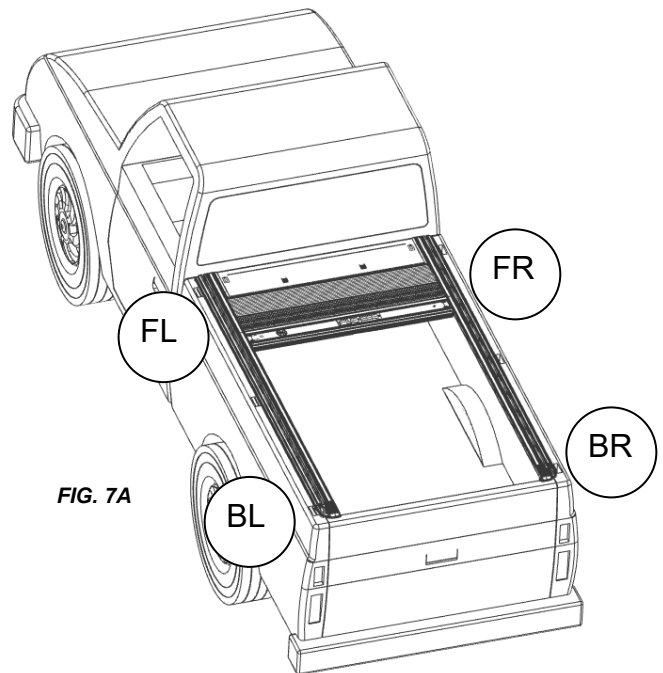

FIG. 7A
Slide the clamp extensions on the tailgate and cab end of each rail as pictured in Figure 7A-7E. Ensure that your tailgate end and cab end extensions are in the correct orientation and have the correct stick on shims. Each clamp extension is labeled for front left (FL), front right (FR), back left (BL), and back right (BR). The extensions go on the corners shown in figure 7A.